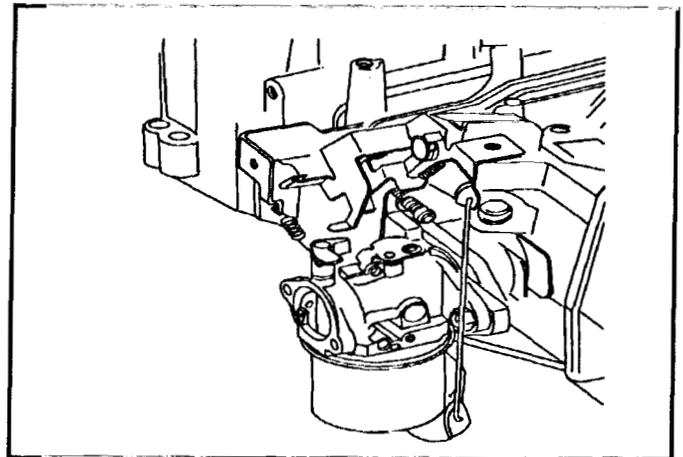

Figure 95
4. Install the choke over center spring. See Figure 95.